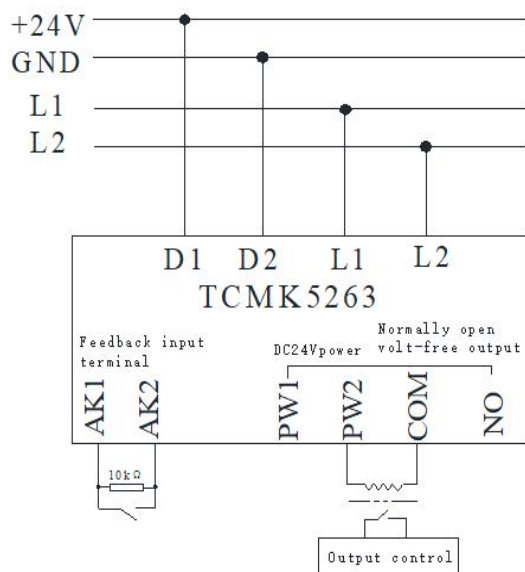

Fig.3
- 8.1 Sketch for controlling high-voltage and mass-power device with module: fig. 3:
Fig. 3 sketch for controlling high-voltage and mass-power device